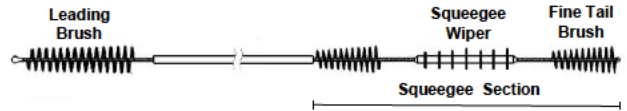
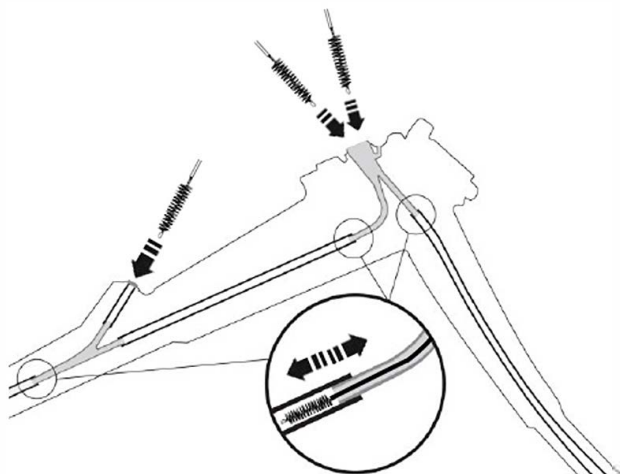
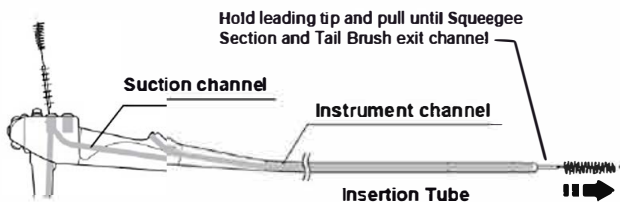
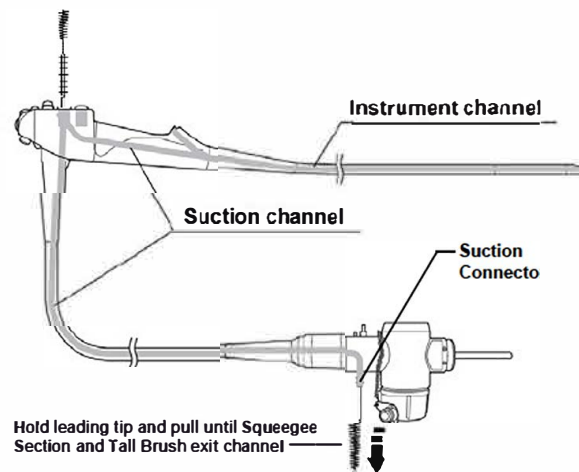

Figure 1A SuperDART® with Squeegee Cleaning Device
Figure 9 Cleaning the connections between metal port and channel
Figure 10 Cleaning Suction and Instrument Channel
Figure 11 Cleaning Suction Channel
### USE – SuperDART® Cleaning Device (Figure 1A)
Advance the Leading Brush (with the protective bullet, see Figure 1A & 8) through the opening in the Suction Cylinder until you feel less resistance, approximately 8cm. Move the brush back and forth 2-3 times to clean the connection of the Suction Cylinder Port to the Teflon channel tube (see Figure 9). Next, proceed with pushing the device through the Instrument Channel until the Leading Brush appears at the end of the Insertion Tube. Use short strokes as not to kink the device catheter. Hold the distal end of the device and pull it through until the Squeegee Section of the device clears the channel exit (see Figure 10). This device has been validated for cleaning the channel effectively with only ONE PASS™ through. With the device still submerged in the detergent solution, inspect and scrub off all debris present on all Bristles and Squeegee Wiper before proceeding to clean the next channel or accessories.
Advance the Leading Brush through the opening in the Suction Cylinder until you feel less resistance, approximately 8cm. Move the brush back and forth 2-3 times to clean the connection of the Suction Cylinder Port to the Teflon channel tube (see Figure 9). Next, proceed with pushing the device through the Suction Channel until the Leading Brush appears from the Endoscope Suction Connector. Use short strokes as not to kink the device catheter. Hold the distal end of the device and pull it through until the Squeegee Section of the device clears the channel exit (see Figure 11). This device has been validated for cleaning the channel effectively with only ONE PASS™ through. With the device still submerged in the detergent solution, inspect and scrub off all debris present on all Bristles and Squeegee Wiper before proceeding to clean the accessories.
**(3) Brush the connection of the Instrument Channel Port to the Teflon channel tube.** Advance the Leading Brush straight through the opening in the Instrument Channel Port, by approximately 8cm. Move the brush back and forth 2-3 times to clean the connection of the Instrument Channel Port to the Teflon channel tube, see Figure 9. Pull back out the Leading Brush. With the brush submerged in the detergent solution, inspect and scrub off all debris present on all Bristles before proceeding to clean the next channel or accessories.
(4) Use the Leading Brush to clean the Biopsy Valve, Suction Valve and Air/Water Valve according to endoscope manufacturer's instructions.